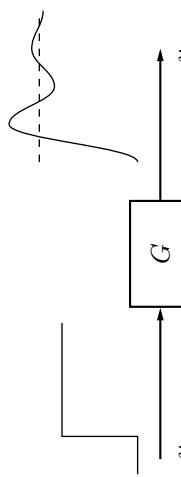

Figure 2.8a
- 2.8 Consider a system described by the model $Y(s) = G(s)U(s)$ as shown in Figure 2.8a. Given $G(s)$, how is the step response computed? How can the step response be determined using experiments?